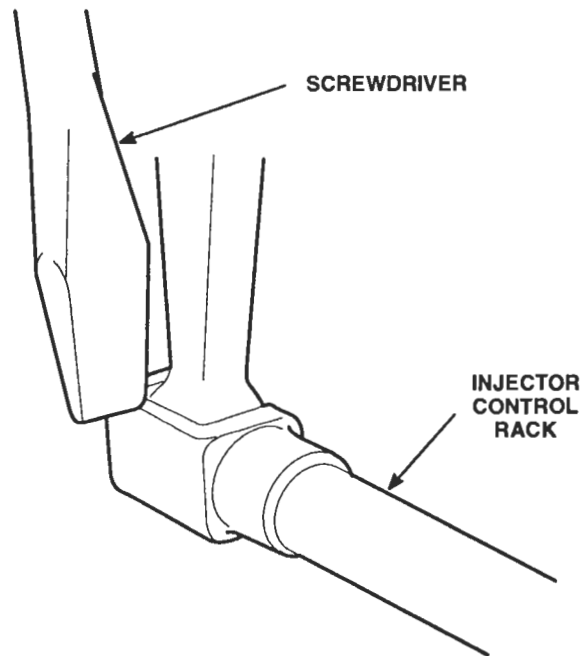

Figure 6. Checking Injector Control Rack "Spring"
9. Hold the speed control lever in the maximum speed position and, using a screwdriver, press downward on the injector control rack. The rack should tilt downward and when the pressure of the screwdriver or finger tip is released, the control rack should "spring" back upward (Figure 6.)